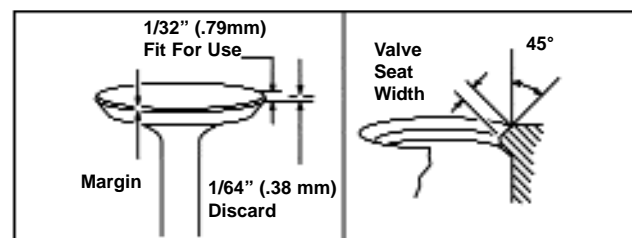

Figure 92 - Valve and Seat Dimensions
5. Valve seat width should be as shown in Figure 92 and Table 7, page 7-40.
7. Replace valve if margin is 1/64 inch (.38 mm) or less or damaged, Figure 92.